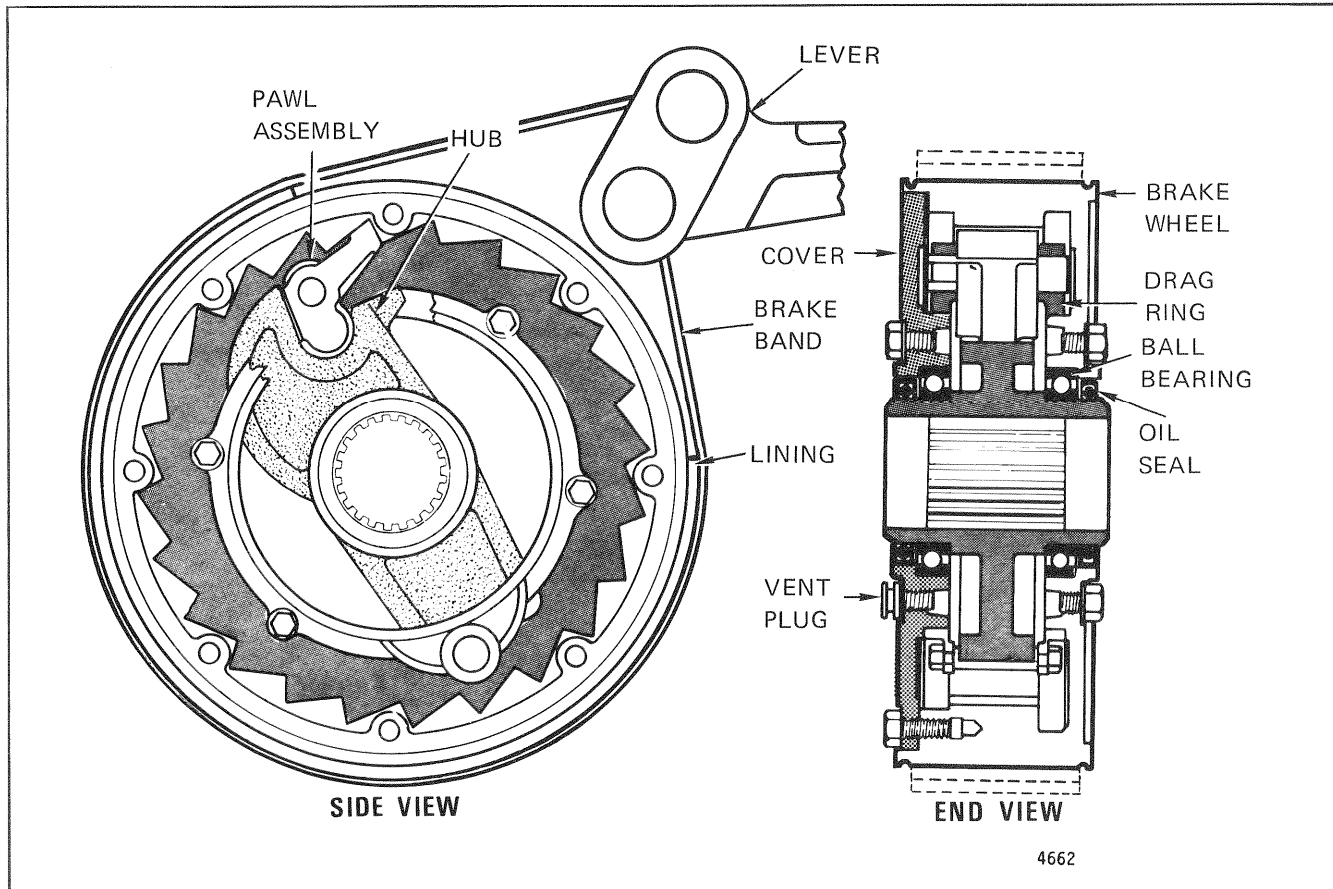

FIGURE 6-6. OPTIONAL AUTOMATIC BRAKE ASSEMBLY
6-15. OPTIONAL AUTOMATIC BRAKE. (See Figure 6-6.)
**NOTE** If the winch is equipped with the optional automatic brake (See Figure 6-6), the winch may haul-in line with the brake lever set, but the brake must be released to pay-out line.